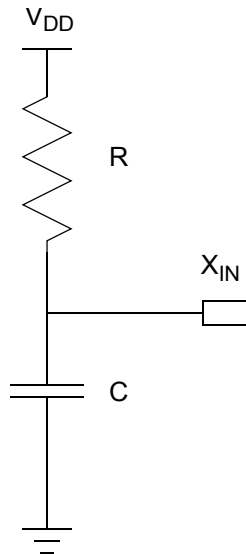

Figure 70. Connecting the On-Chip Oscillator to an External RC Network
Figure 70 displays a recommended configuration for connection with an external resistor-capacitor (RC) network.